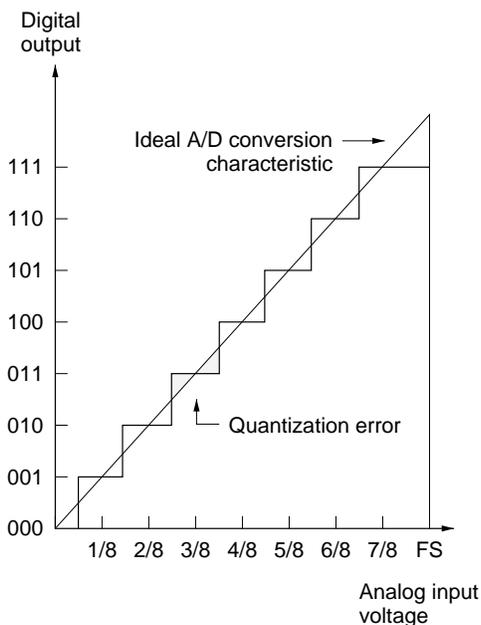

Figure 14-9 A/D Converter Accuracy Definitions (1)
- Quantization error:.....Intrinsic error of the A/D converter; 1/2 LSB (figure 14-9)